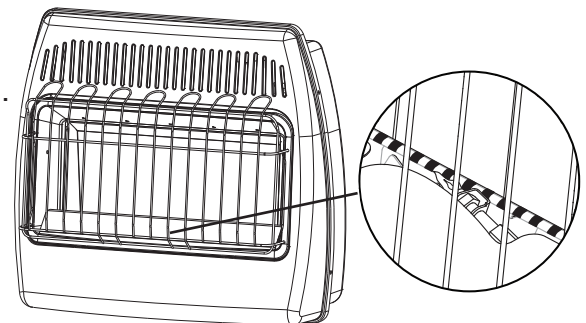

Fig. 24 - Pilot Flame Location
6. With control knob depressed, push down on the ignitor button until the pilot lights. The pilot is visible centered below the main burner, behind the front grill. (See Fig. 24)
7. Keep control depressed for (30) seconds after pilot lights. Release control knob.
**Note:** If pilot goes out repeat steps 3 through 7. Wait (1) minute before attempting to light pilot again.
7. Keep control knob depressed for (30) seconds after pilot lights. Release control knob.
**Note:** If pilot goes out repeat steps 3 through 7. Wait (1) minute before attempting to light pilot again. If after several tries the pilot still goes out, turn the gas control knob clockwise ↷ to the "OFF" position and call your service technician or gas supplier. If the control knob does not pop up when released, stop and immediately call your service technician or gas supplier.